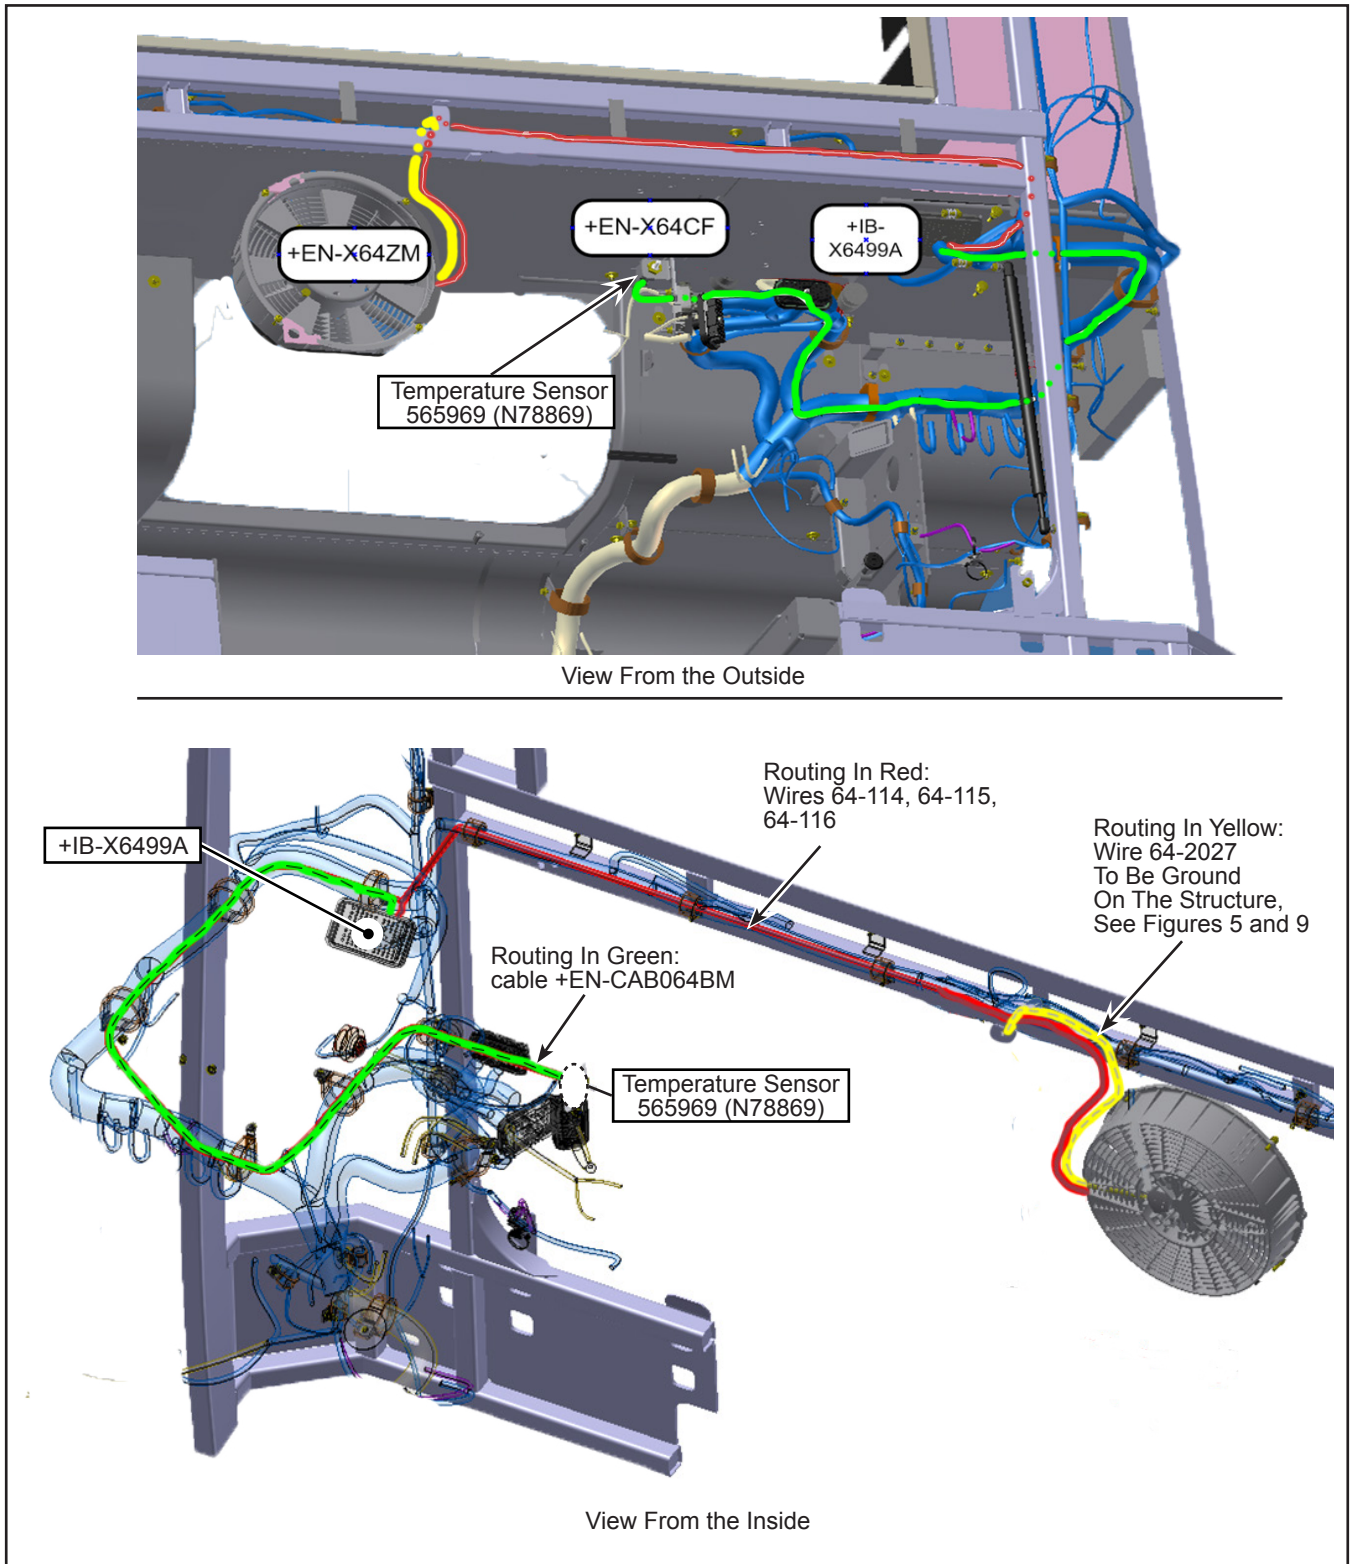

Figure 18 - Routing for the New Harness N632000532
- 1.36. Route harness N632000532 by following existing license plate harness towards the main engine harness 64 on the curb side and then up to the IB-X6499A connector (see Figure 18).